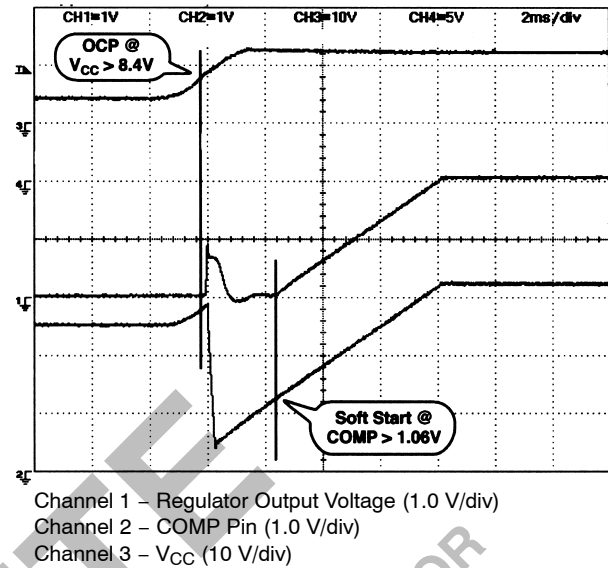

Figure 12. Startup with COMP Pre-Charged to 2.0 V (2.0 ms/div)
If the voltage across the Current Sense resistor generates a voltage difference between the  $V_{FB}$  and  $V_{OUT}$  pins that exceeds the OVC Comparator Offset Voltage (86 mV typical), the Fault latch is set. This causes the COMP pin to be quickly discharged, turning off GATE(H) and the upper NFET since the voltage on the COMP pin is now less than the 1.1 V PWM comparator offset. The Fault latch is reset when the voltage on the COMP decreases below the discharge threshold voltage (0.25 V typical). The COMP capacitor will again begin to charge, and when it exceeds the 1.1 V PWM comparator offset, the regulator output will Soft Start normally (see Figure 12).